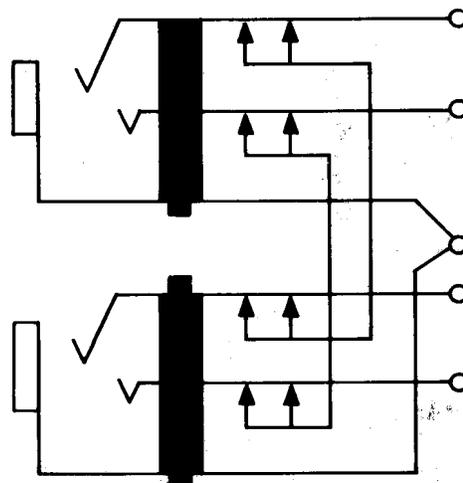

Fig. 2—577A Jack
2.02 **577A:** This single-mounted, twin, miniature jack (Fig. 2) has a single frame and is suitable to be used in equipment where space restrictions are a problem. This jack is arranged to mate with the 310 and similar-type plugs. This jack is used with the D2 Channel Bank Units.